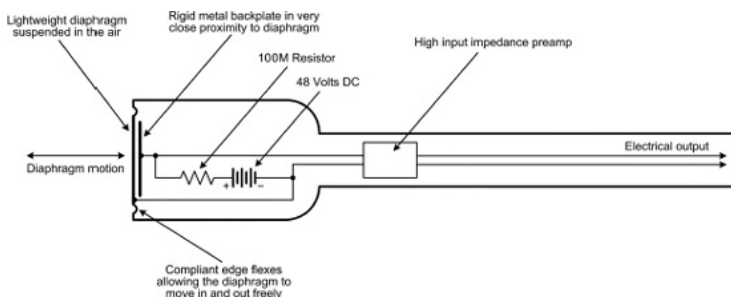

Figure 17.14: The electrical output from a condenser microphone is derived from a DC voltage that changes as the diaphragm is deflected by sound waves.
The basic operation of a condenser microphone is shown in Figure 17.14. The bias voltage is shown as the schematic symbol for a conventional battery, though it's labeled 48 volts, since that's the standard for phantom power. Some microphones can operate with as little as 15 volts, using an internal DC-to-DC converter to generate the higher voltage needed to polarize the capsule. Regardless of how the capsule is charged, or *polarized*, the reason the voltage changes is the physics Law of Conservation of Energy. A given polarizing voltage across a given amount of capacitance creates a stored charge whose amount is expressed in Coulombs. In this formula, the voltage (E) across a capacitor is equal to the charge in Coulombs (Q) divided by the amount of capacitance (C):